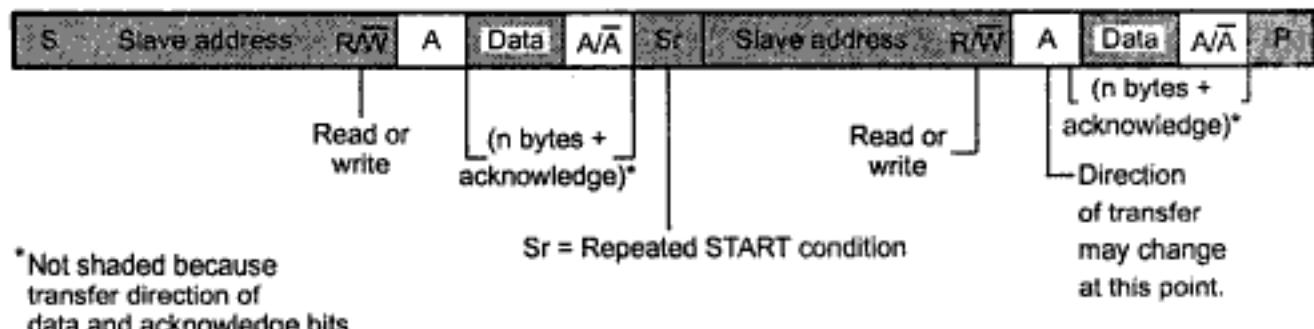

Fig. 14.21 Combined format.
3. The Fig. 14.21 shows the combined format. During a change of direction within a transfer, the START condition and the slave address are both repeated, but with the R/W bit reversed. If a master receiver sends a repeated START condition, it has previously sent a not-acknowledge (A).